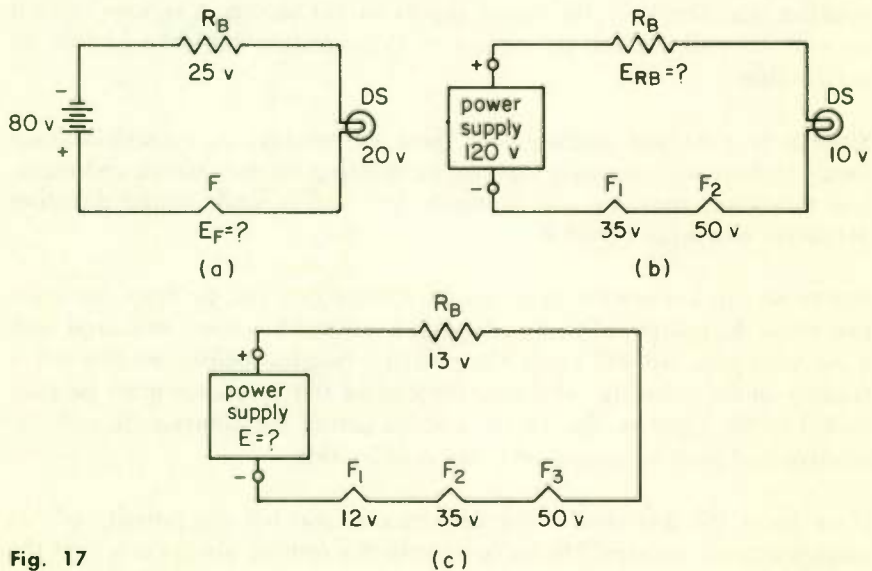

Fig. 17
3. From the information given on the circuits shown in Fig. 17 determine the following: (a) the voltage drop across the vacuum-tube heater F in part (a), (b) the voltage drop across resistor R_B in part (b), and (c) the value of the power supply voltage in part (c).